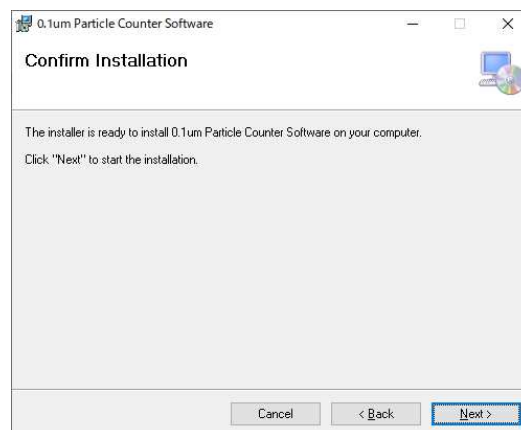

Figure 2-3 Confirmation Installation Dialog Box
- 3) Click the **Next** button to display the dialog box as shown in Figure 2-3.